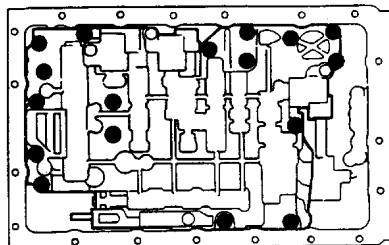

Fig. 14 Valve Body Bolt Locations
(6) Remove valve body bolts. Locations for seventeen bolts are outlined in Figure 14.
- (5) Install valve body bolts (Fig. 14). Tighten bolts evenly to 10 N·m (7 ft-lbs) torque.